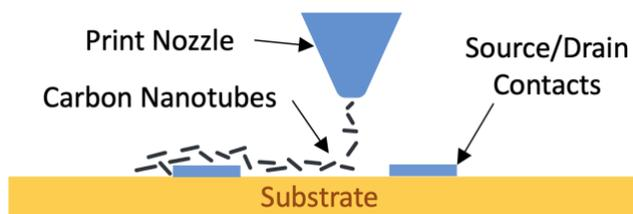

Figure 3. Printing Semiconductor Transistors. Illustration of carbon nanotubes being printed by an aerosol jet printer nozzle onto contacts on a substrate.
3. Print semiconductor device channels (Fig. 3). This can either be done: